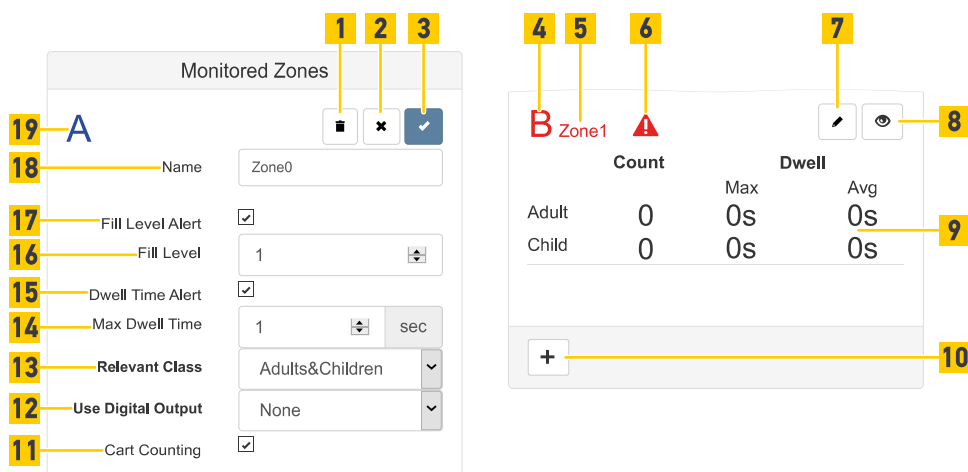

Fig. 105: Monitored zones
- The monitored zone is specified with an identifier (Fig. 105 /4 or /19) and a name (Fig. 105 /5).
- It is possible to see the counting information of the monitored zone for Adults and children (Fig. 105 /9) if object classification is licensed. The number of objects and the maximum and average dwell time are also displayed.
- If an alert for the monitored zone is defined see the status (Fig. 105 /6).
- To show or hide the monitored zone in the live view click the  button (Fig. 105 /8).
- To edit the monitored zone in the live view click the  button (Fig. 105 /7).
- Enter a unique Name (Fig. 105 /18) for the monitored zone. This is used in the user interface as well as in data files.
- To define an alert for a number of objects (Fig. 105 /16) in the monitored zone tick the Fill Level Alert checkbox (Fig. 105 /17). E.g. 5 to alert if 5 Persons or more are in the zone.
- To define an alert for a maximum dwell time of an object (Fig. 105 /14) in the monitored zone tick the Dwell Time Alert checkbox (Fig. 105 /15).
- Select a Relevant Class (Fig. 105 /13) from the list for the alerts.
- To signal the alert select a digital output (Fig. 105 /12) from the list.
- To activate cart counting tick the Cart Counting checkbox (Fig. 105 /11).
- To remove the monitored zone click the  button (Fig. 105 /1).
- To go back to the last saved settings click the  button (Fig. 105 /2).
- To save all the settings in the device click the  button (Fig. 105 /3).
- To add a monitored zone click the  button (Fig. 105 /10).